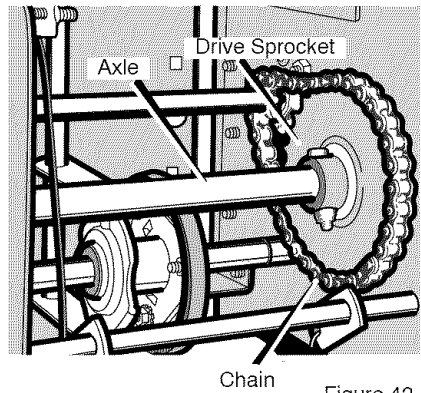

Figure 42
7. Remove the fasteners that secure the **drive sprocket** to the **axle** (see Figure 42).
16. Install the left wheel, **axle**, and **drive sprocket** with the fasteners removed earlier. Install the **chain** onto the **drive sprocket** (see Figure 42).